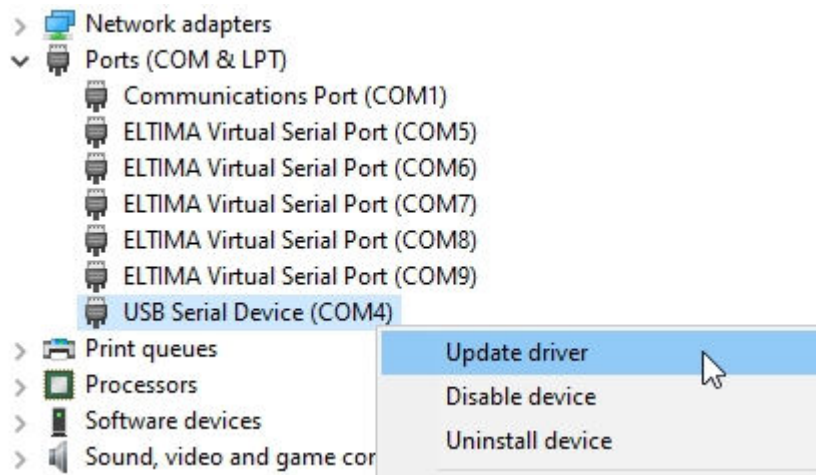

Figure 66
- open **Ports (COM & LPT)**, Fig. 66
- select the appropriate COM port (Fig 66). If you do not know which one, simply turn nanoVNA off/on to see which disappears and reappears.
- right-click and select **Update Driver**, (Fig 66)